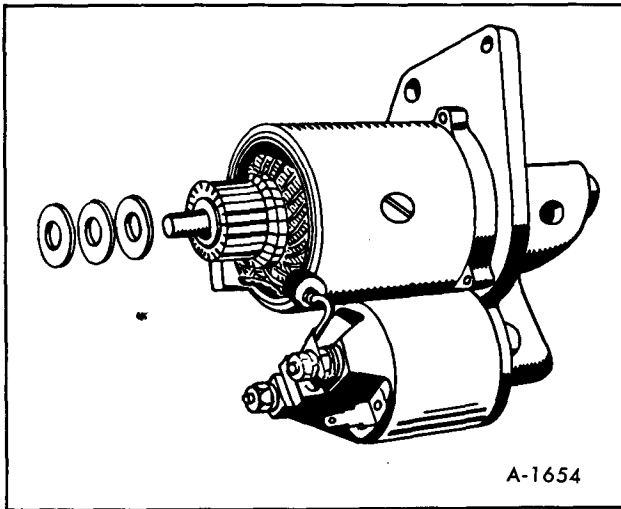

Figure 75—Installing Thrust Washers
7. Place the thrust washer (steel) and washer (fiber) on the commutator end of shaft, and apply a small amount of lubriplate on the shaft (figure 75).